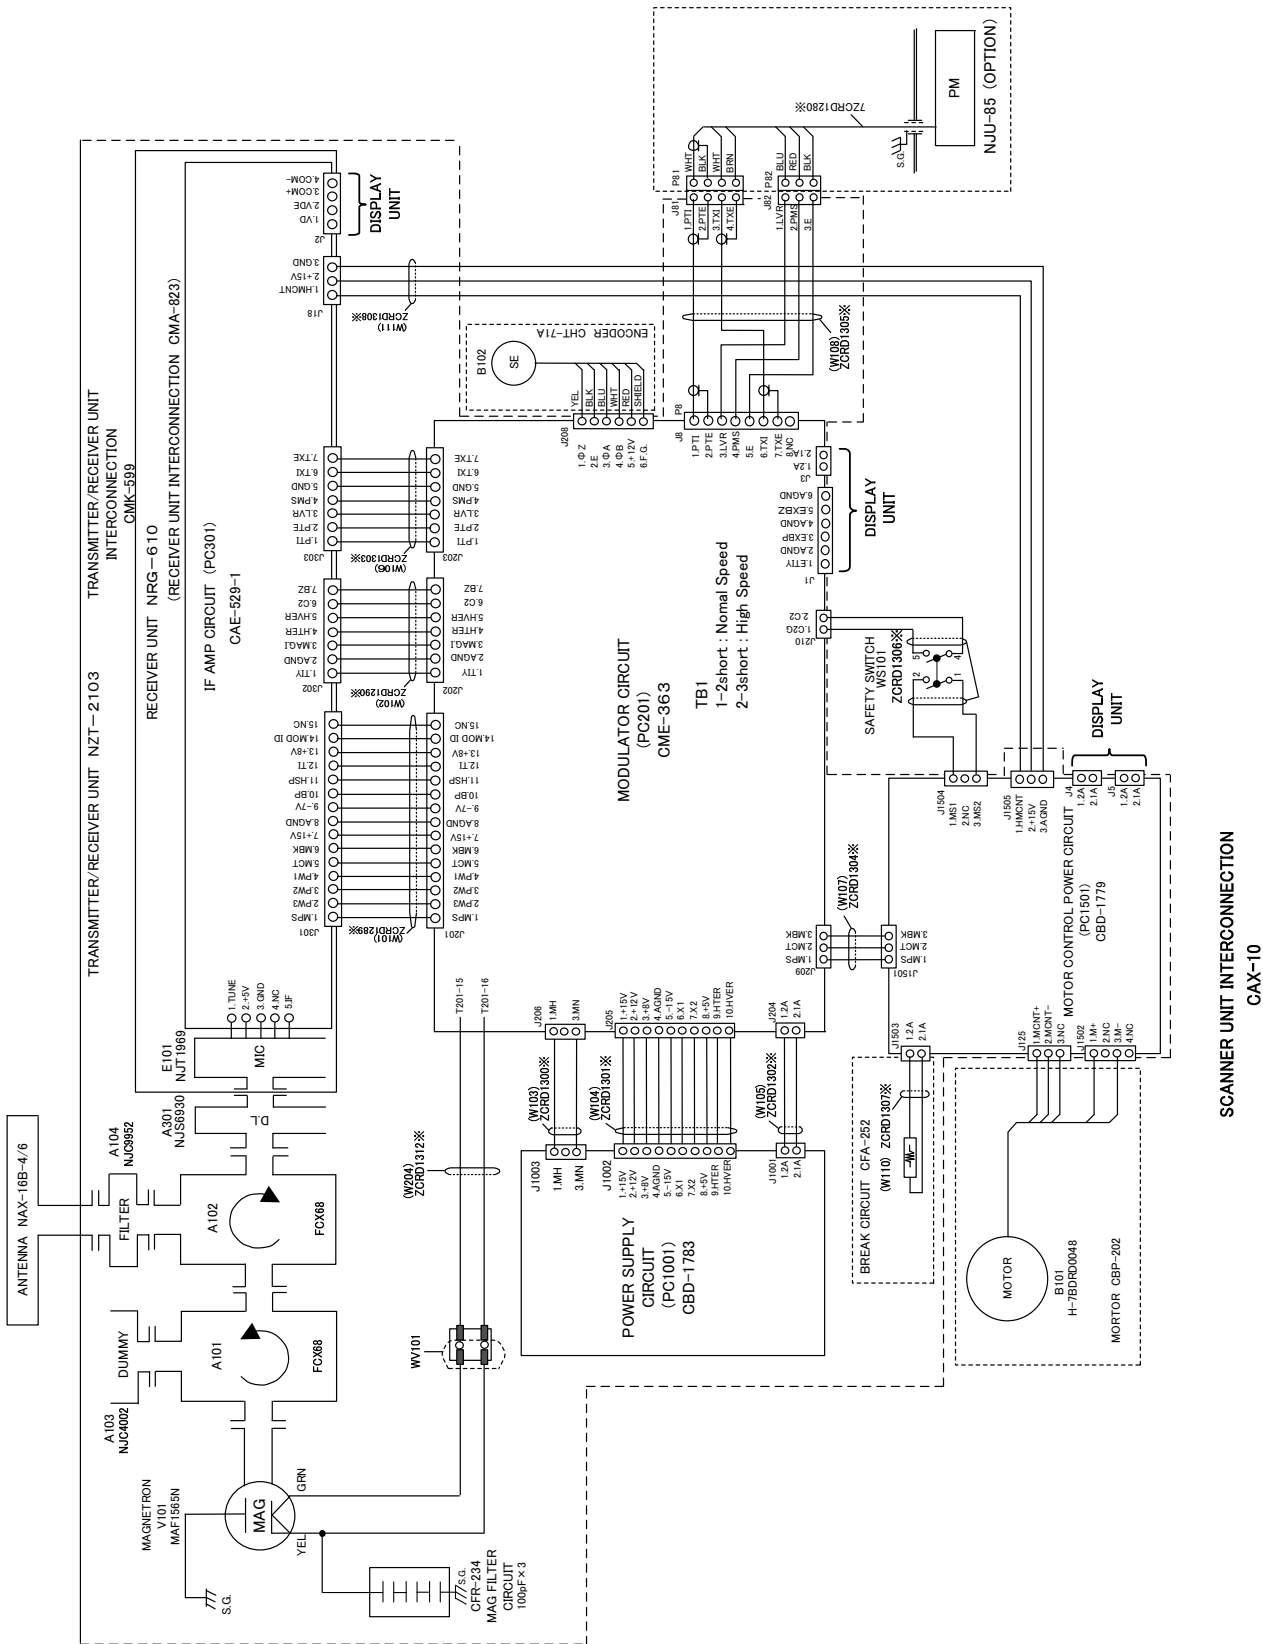

Figure 10 NKE-2103 Scanner Unit Interconnection Diagram
- FIGURE 10 NKE-2103 SCANNER UNIT INTERCONNECTION DIAGRAM**